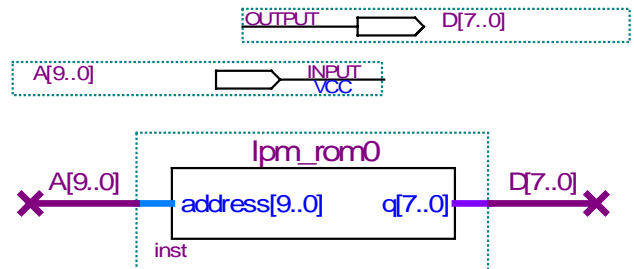

Figure 2: ROM with signals named and defined.
9. Add a bus to the address inputs, address[9..0], and a bus to the data outputs, q[7..0]. Label the address or data bus by drawing it then typing the name. In Figure 2, we have used A[9..0] and D[7..0] as the example names. They must be in the form of “Name[msb..0]” where msb is the most significant bit’s position, starting from zero on the right. You can now use these signals anywhere else in your circuit or as inputs & outputs (as shown in Figure 2).